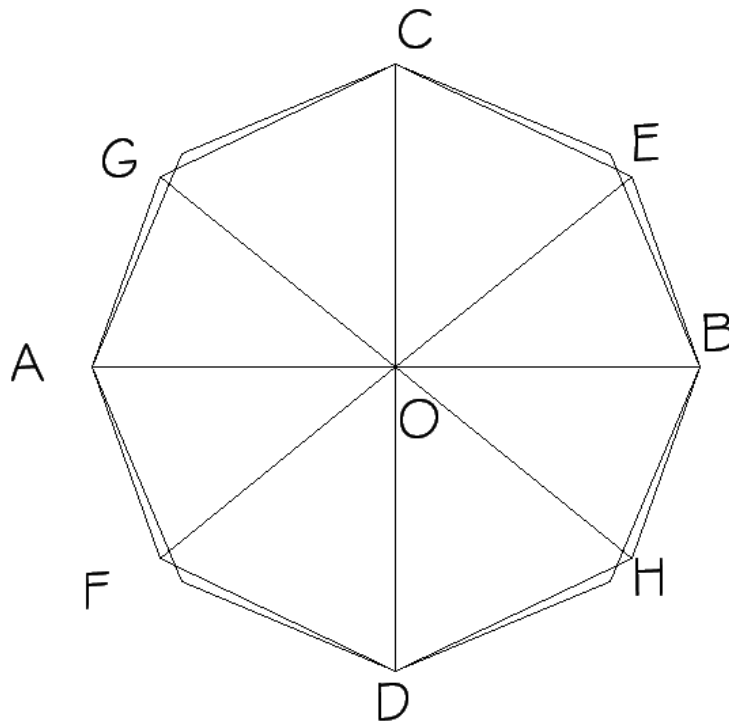

Figure 9.12
3. Repeat this process to locate points E, H, and F. The circle is now divided into 8 chords AG, GC, CE, EB, BH, HD, DF, and FA. Draw lines to indicate the 8 chords. See **Figure 9.12**.